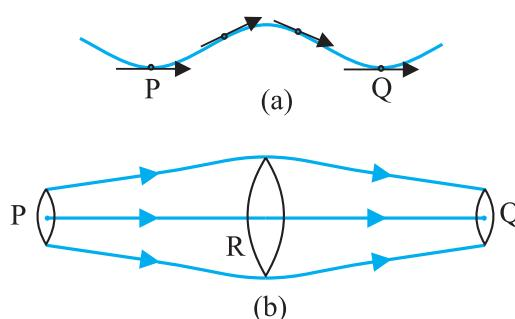

Fig. 10.7 The meaning of streamlines. (a) A typical trajectory of a fluid particle.
► **Example 10.6** In a car lift compressed air exerts a force F_1 on a small piston having a radius of 5.0 cm. This pressure is transmitted to a second piston of radius 15 cm (Fig 10.7). If the mass of the car to be lifted is 1350 kg, calculate F_1 . What is the pressure necessary to accomplish this task? ($g = 9.8 \text{ ms}^{-2}$).
The path taken by a fluid particle under a steady flow is a **streamline**. It is defined as a curve whose tangent at any point is in the direction of the fluid velocity at that point. Consider the path of a particle as shown in Fig. 10.7 (a), the curve describes how a fluid particle moves with time. The curve PQ is like a permanent map of fluid flow, indicating how the fluid streams. No two streamlines can cross, for if they do, an oncoming fluid particle can go either one way or the other and the flow would not be steady. Hence, in steady flow, the map of flow is stationary in time. How do we draw closely spaced streamlines? If we intend to show streamline of every flowing particle, we would end up with a continuum of lines. Consider planes perpendicular to the direction of fluid flow e.g., at three points P, R and Q in Fig. 10.7 (b). The plane pieces are so chosen that their boundaries be determined by the same set of streamlines. This means that number of fluid particles crossing the surfaces as indicated at P, R and Q is the same. If area of cross-sections at these points are A_p, A_R and A_Q and speeds of fluid particles are v_p, v_R and v_Q , then mass of fluid Δm_p crossing at A_p in a small interval of time Δt is $\rho_p A_p v_p \Delta t$. Similarly mass of fluid Δm_R flowing or crossing at A_R in a small interval of time Δt is $\rho_R A_R v_R \Delta t$ and mass of fluid Δm_Q is $\rho_Q A_Q v_Q \Delta t$ crossing at A_Q . The mass of liquid flowing out equals the mass flowing in, holds in all cases. Therefore,